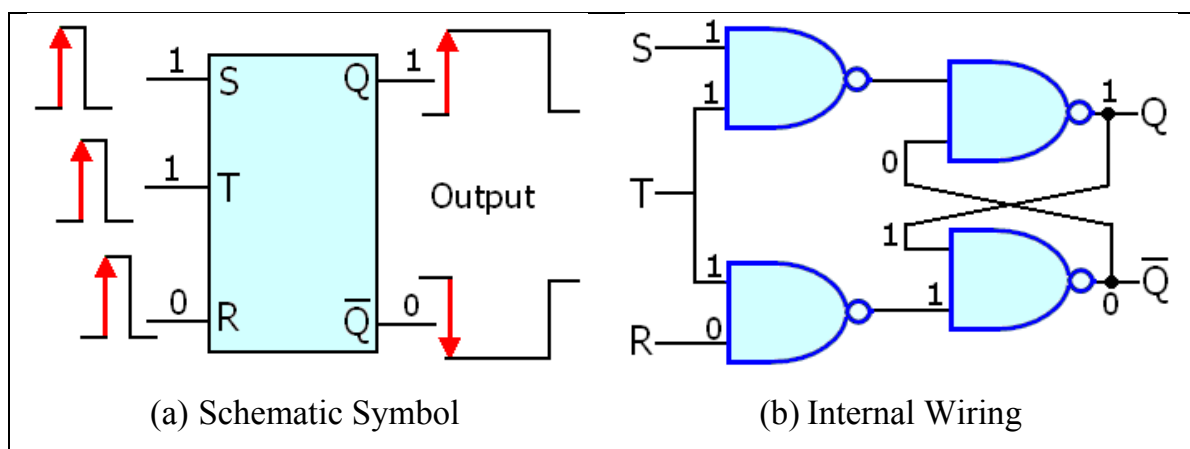

Fig. 3.3-8 RST-Flip/Flop using SN7400 TTL Series NAND Gates
Fig. 3.3-8 shows the RST-flip/flop using NAND gates for schematic symbol in (a) and internal wiring in (b). The RST-flip/flop, using NAND gates, has two active high inputs, Set (S) and Reset (R), and two outputs Q and  $\bar{Q}$ . The active high inputs mean that the inputs to the flip/flop are normally held low (0) with pull-down resistors or with the outputs of other gates and when activated go high (1) only one at a time.